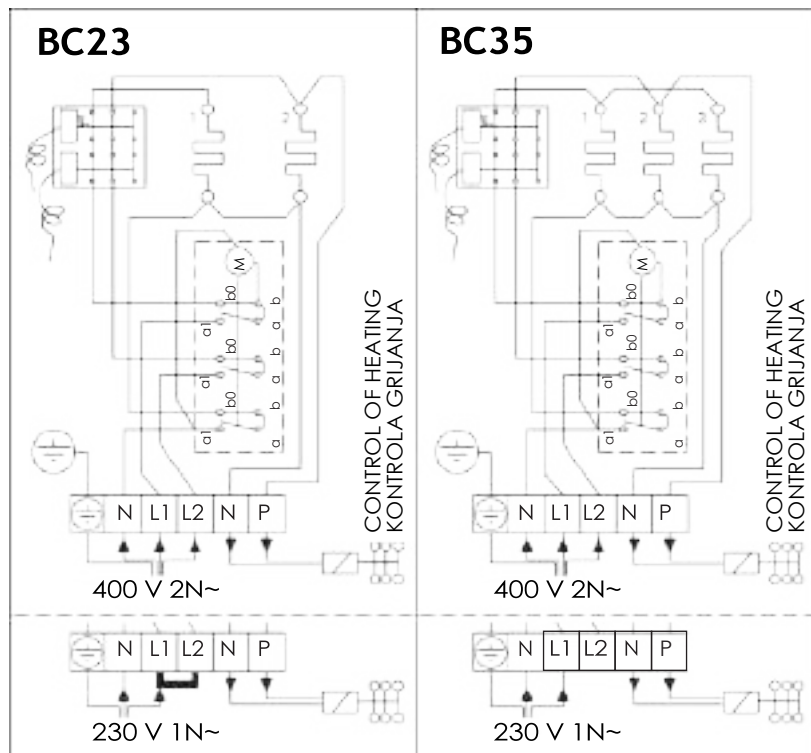

Figure 9. *Electrical connections of heater BC*
- In addition to supply connectors, the BC heaters are equipped with a connector (P), which makes the control of the electric heating possible (figure 9). Voltage control is transmitted from the heater when it is switched on. The control cable for electrical heating is brought directly into the junction box of the heater, and from there to the terminal block of the heater along a rubber cable with the same cross-section area as that of the connecting cable.